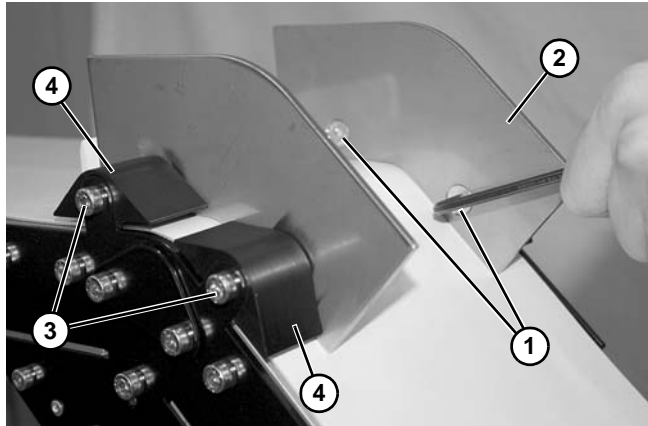

Figure 51
3. If equipped with an upper knuckle, remove screws (**Figure 51, item 1**) and remove guard (**Figure 51, item 2**) on both sides of knuckle.
4. Remove screws (**Figure 51, item 3**) and remove spacers (**Figure 51, item 4**) on both sides of knuckle.